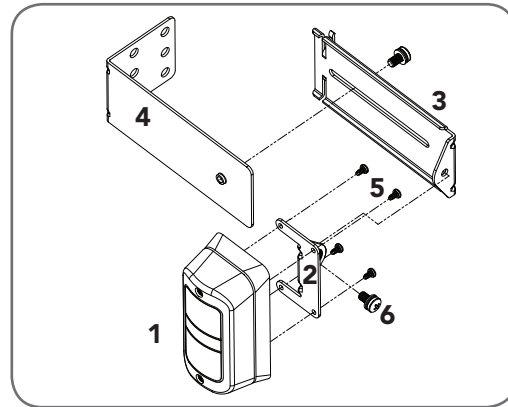

fig 45
- Attach the mounting bracket (4) to adjustment bracket (3) with the pan head screw (6) (supplied) (Fig. 45).
- Attach the PE 2000TS bracket (2) to PE beam transmitter (IR-200TS-TX) with four taprite screws (m3x5) and attach the other side to adjustment bracket (3) with the pan head screw (6) (supplied).